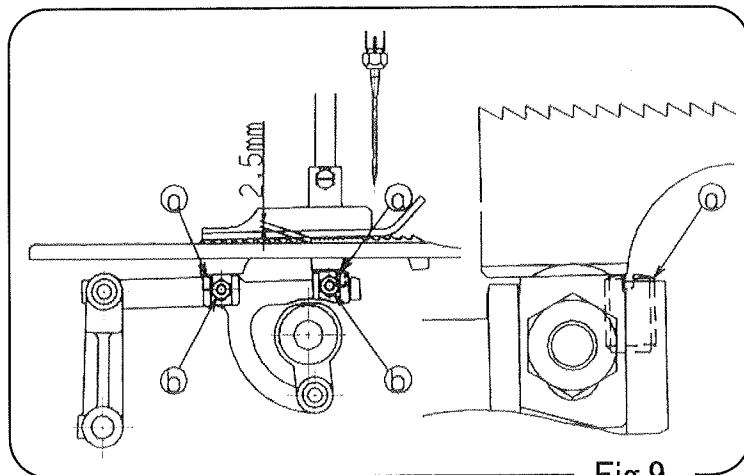

Fig 9
- Adjust the height of the feed dog so that it protrudes 2.5mm from the upper surface of the throat plate when the feed dog has risen to the highest position, as shown in (Fig.9). If the feed dog is higher than this, stitch will not chain satisfactorily, and if it is lower than this, the stitch width will be too small. Slacken nut ⑥ with a box spanner to adjust the height of the Feed Dog. It is important to adjust the height with set screw ④ to ensure that the pressure from the Pressure Foot should not force it back down. Tighten nut ⑥ when the adjustment is correct.
- 送り金(前)の高さは、送り金が最も上がったとき、針板上面から2.5mm出るように調整します。(Fig.9)